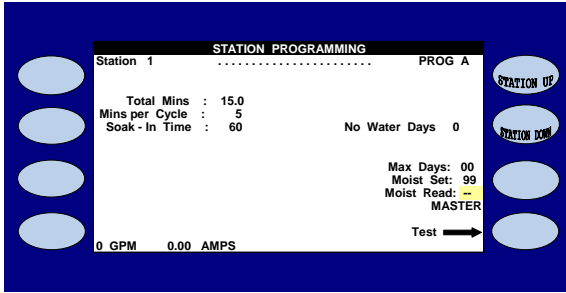

Figure 13
18.  If you want to test a different station press the **STATION UP** or **STATION DOWN** keys to the right of the display screen (Figure 13).